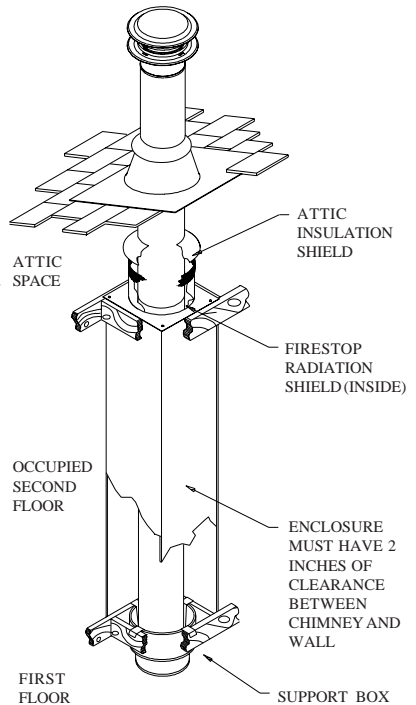

Fig 2
**Through Rooms:** Interior chimneys shall be enclosed where they extend through closets, storage areas, occupied spaces, or anyplace where the surface of the chimney could be contacted by persons or combustible materials. The space between the outer wall of the chimney and the enclosure shall be at least 2 inches (Fig 2).